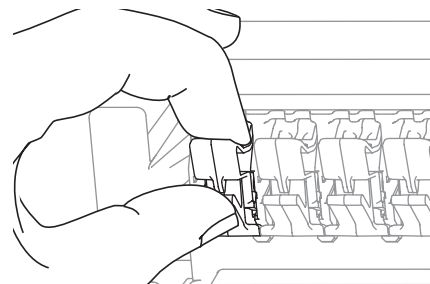

Figure 13
- Pinch, then pull back the appropriate toggle (Figure 13).